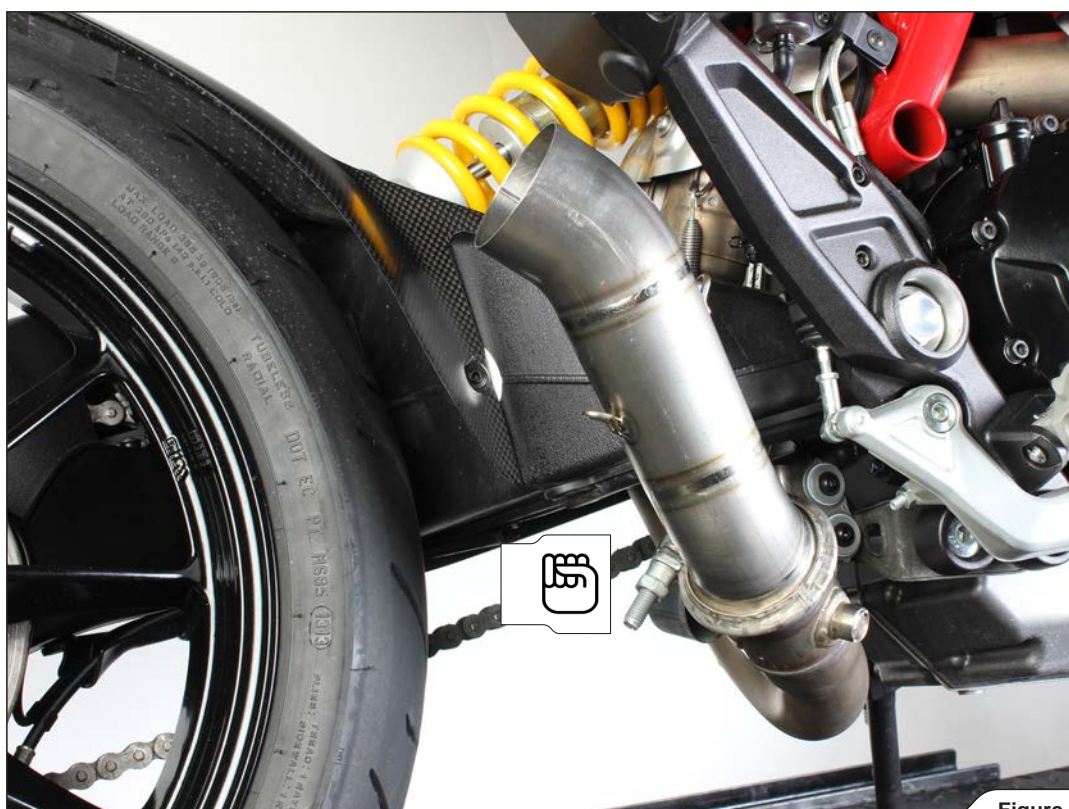

Figure 2
1. Hand tighten the link pipe onto the outlet side of the stock collector, using stock clamp (**Figure 2**).